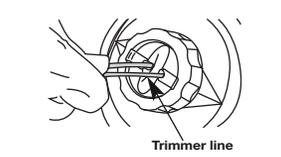

Fig. 22
2. Using 16 ft. (3.2 m) of 0.095 in. (2.41 mm) replacement line push both ends of the line through the holes in the bump knob until they protrude through the eyelets on both sides of the cutting head. Continue pulling the line until approximately 6 ft. (1.5 m) is visible from both sides of the cutting head. (Fig. 22)